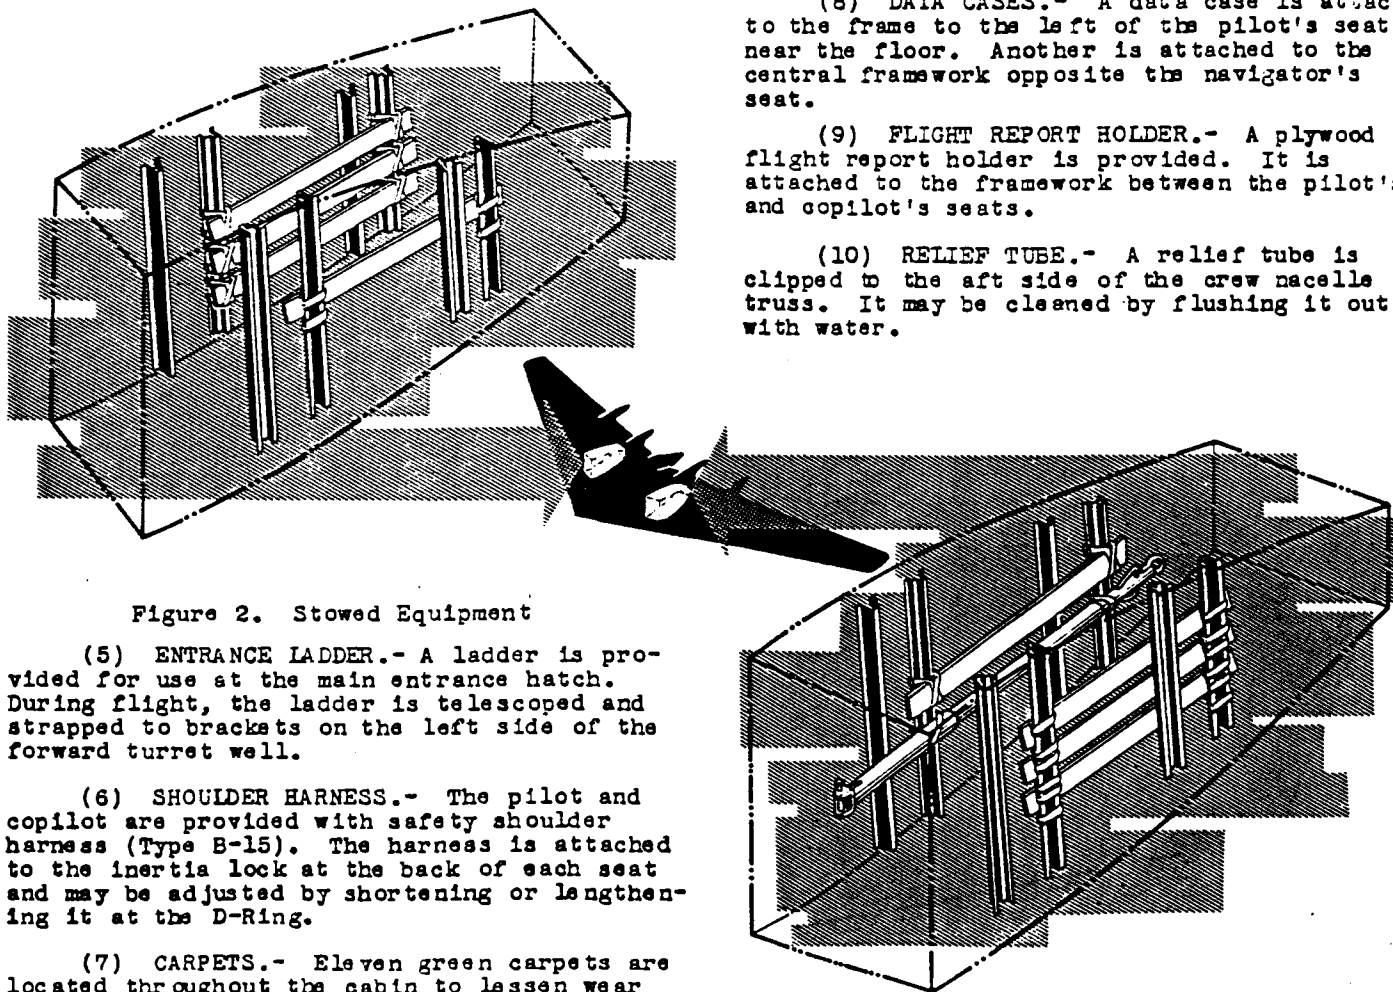

Figure 2. Stowed Equipment
(2) TOWING AND STEERING BAR.- A towing and steering bar is stowed in No. 2 Bomb Bay. (See figure 2.)